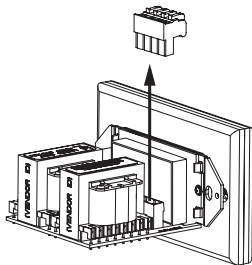

Figure 6
1. Locate the connector plugs (and remove them if they are plugged in). See **Figure 6** on page 7.
scalloped side of the connector plug into the smooth side of the socket. See **Figure 6** on **page 7**.
6. Plug the connectors into the volume control as shown in **Figure 6** on **page 7**. The inputs of the IM volume control are the connector pins labeled AMPLIFIER. The outputs are the connector pins labeled SPEAKERS.